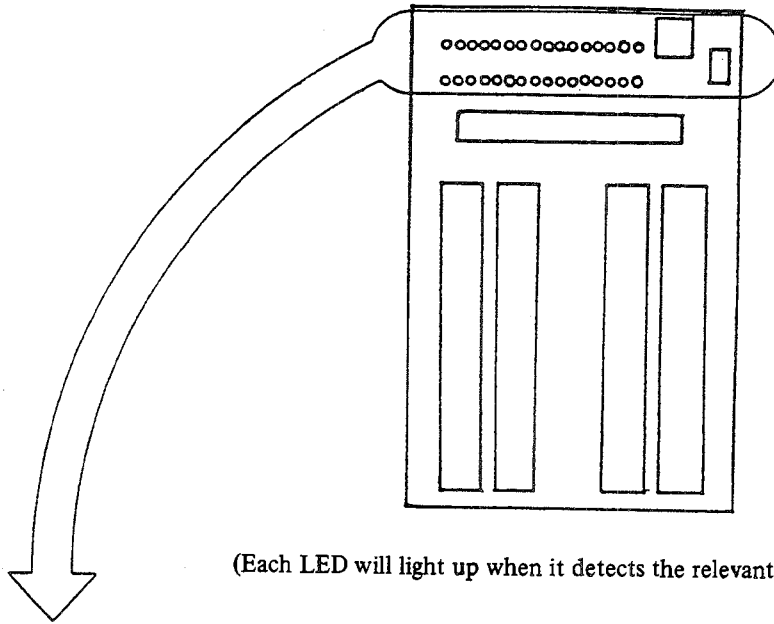

Fig. 166
Desired operation time can be obtained by timer volume knobs ①, ② in Fig. 166